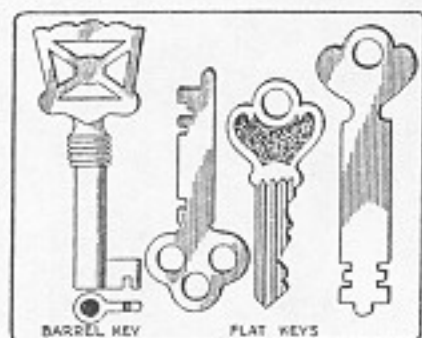

Fig. 303. Keys.
5. Keys are mainly of two types, the round or barrel, and the flat key. The barrel key is hollow and fits over the key pin in the lock. Other round keys are solid and fit into locks without key pins. The flat keys are either plain or grooved lengthwise. Some flat keys are cut on both edges (Fig. 303).